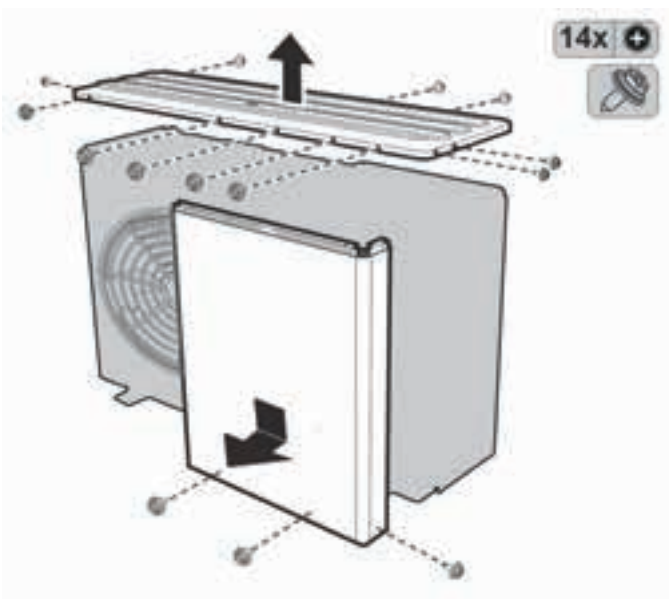
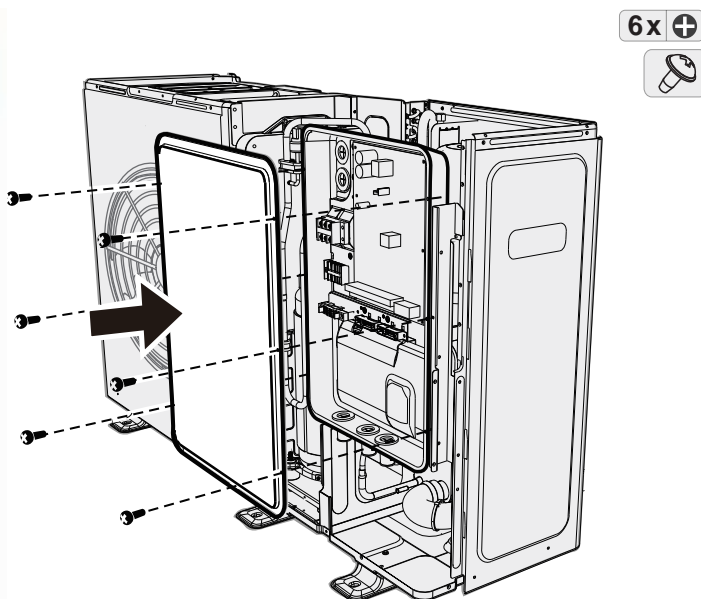

Figure 55. Heat Pump - Top and side panel installation
Figure 56. Heat Pump - Electrical panel installation
4. Remove the top and side panels by removing the screws shown in *Figure 55*. To gain access to the electrical panel, remove the 6 screws indicated in *Figure 56*. (See section 4.1.7 for thorough instructions).